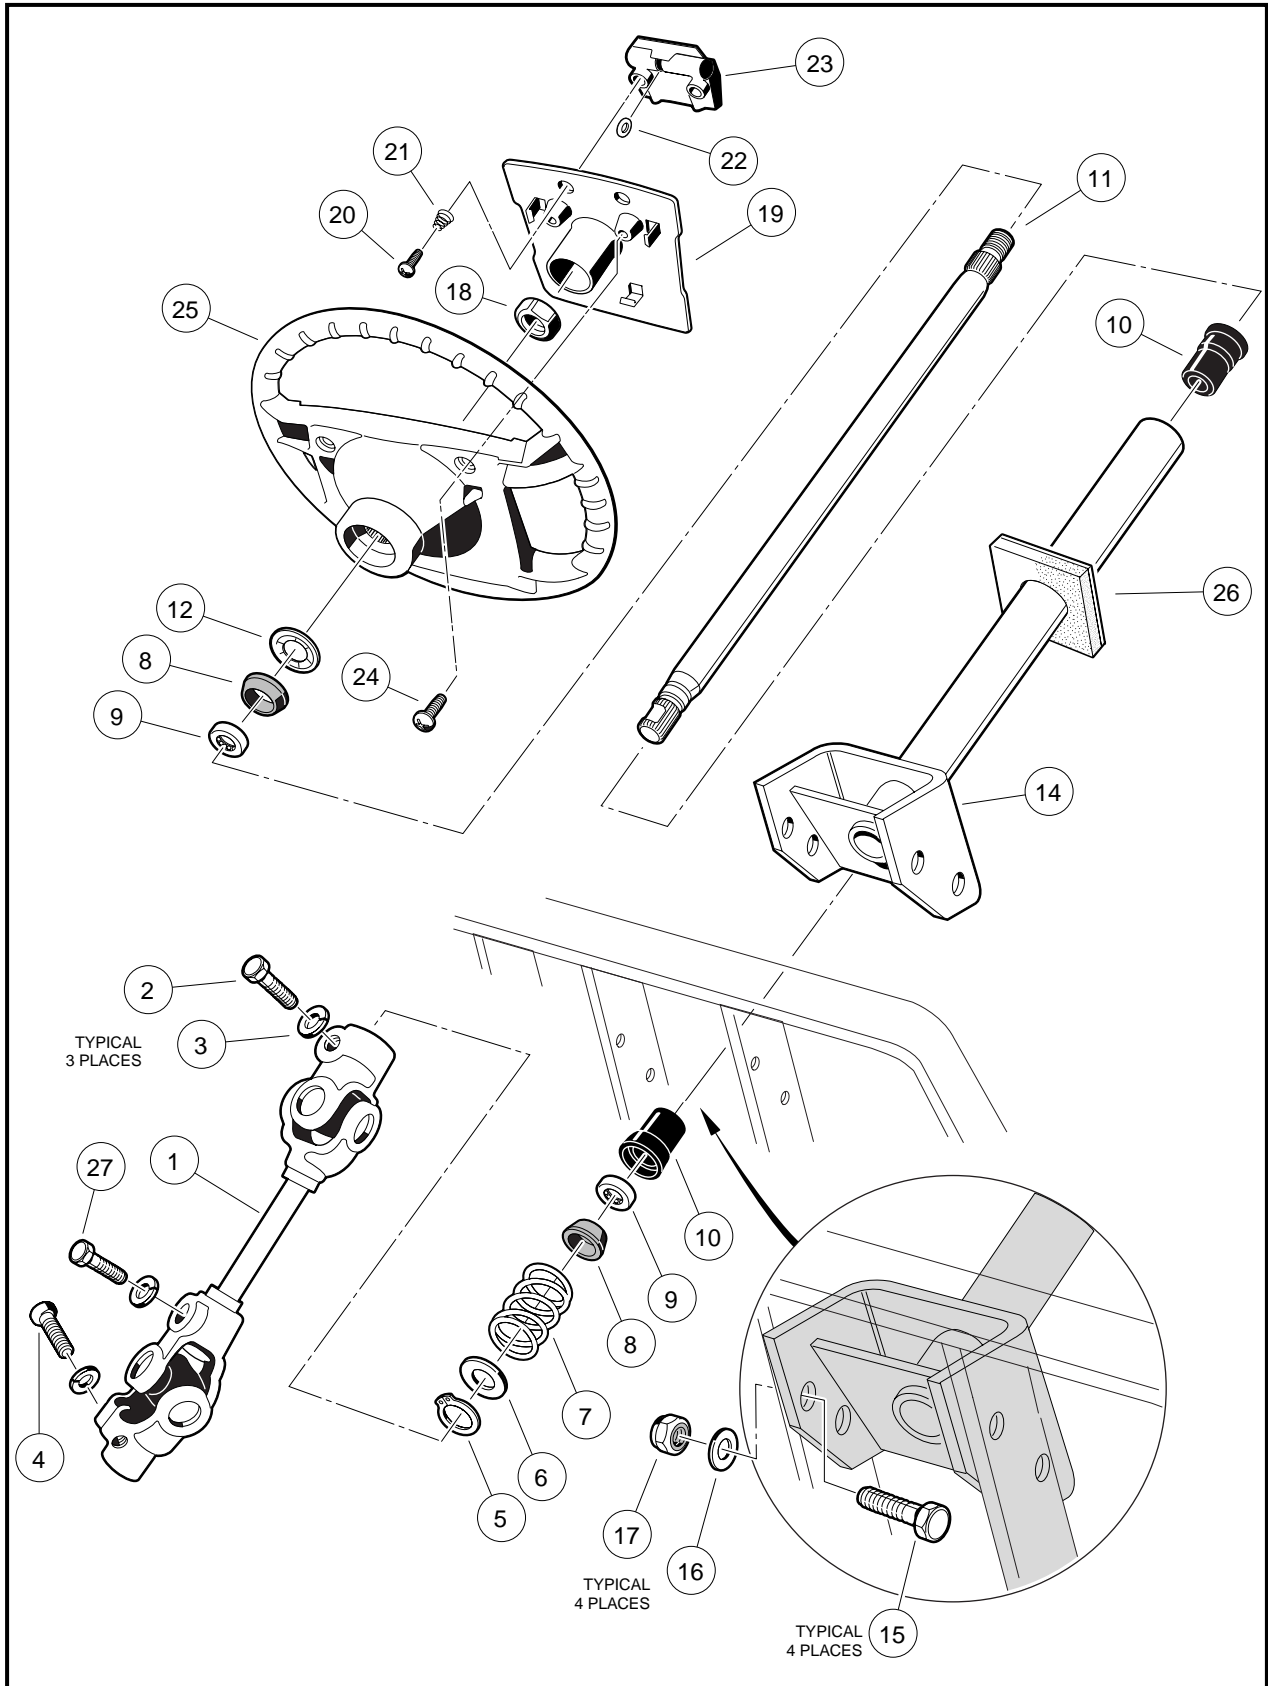
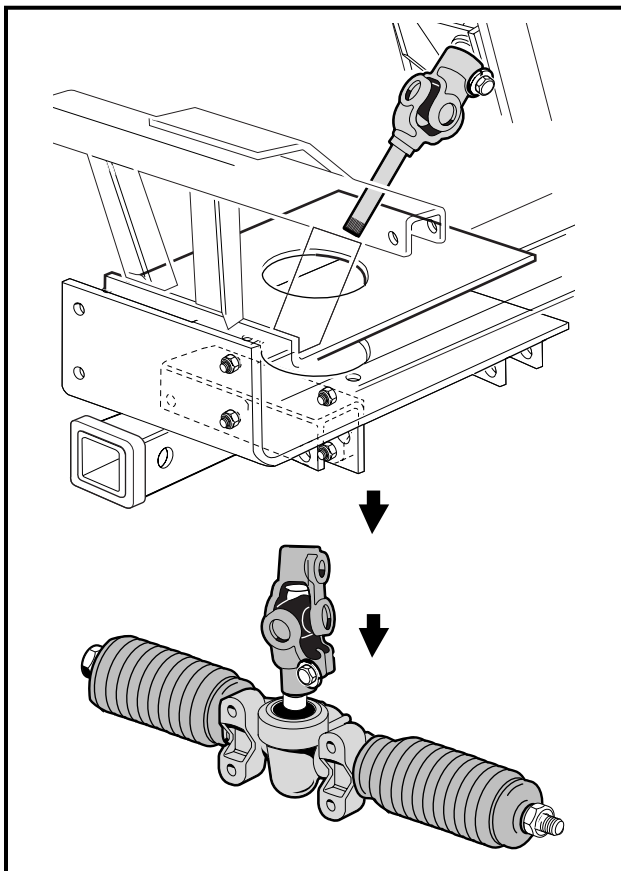

Figure 7-1 Steering Column
Figure 7-8 Remove Rack and Pinion
2. Remove the two mounting screws (24) and plate (19) (Figure 7-1, Page 7-2).
3. Match mark the steering wheel (25) and steering column shaft (11) so when the steering wheel is removed it can be placed back in exactly the same position on steering column shaft (**Figure 7-1, Page 7-2**).
4. Loosen the steering wheel nut (18) and back it off approximately 1/4 inch (6 mm). Do not remove the nut (**Figure 7-1, Page 7-2**).
- 5.6. Remove the steering wheel nut (18) and the steering wheel from the steering column (14) (**Figure 7-1, Page 7-2**).
1. Install the steering wheel (25) on the splines of the steering shaft (11). Be sure to align the match marks placed on the wheel and steering column shaft in step 3 above (**Figure 7-1, Page 7-2**).
2. Install the steering wheel nut (18) and tighten to 13 ft-lb (17.6 N·m) (**Figure 7-1, Page 7-2**).
3. Install the steering wheel plate (19) and plate mounting screws (24) (**Figure 7-1, Page 7-2**). Tighten screws to 16 in-lb (1.8 N·m).
7. Remove the nuts (17), bolts (15), and washers (16) from the steering column mount (14) (**Figure 7-1, Page 7-2**).
1. While supporting steering column (14) on a workbench, remove snap ring (5) from shaft (**Figure 7-1, Page 7-2**).
2. Remove the washer (6), spring (7), and wedge (8) (**Figure 7-1, Page 7-2**).
- Turn the steering column over and slide the shaft out of the tube to expose the retaining ring (12). Use pliers to twist the retaining ring (12) until it breaks off, then remove the wedge (8) (**Figure 7-1, Page 7-2**).
- Remove the shaft (11) from the bottom of the tube (14) (**Figure 7-1, Page 7-2**).
- Use steering shaft (11) to push bearing seat (10) out from the opposite end of the steering tube (14) (**Figure 7-1, Page 7-2**).
- Insert a flat blade screwdriver between the bottom of the outer race of the bearing (9) and the bottom lip of the bearing seat (10) and remove the bearing (9) (**Figure 7-1, Page 7-2**).
4. Insert the shaft (11) from the bottom of the steering tube (14) (**Figure 7-1, Page 7-2**).
1. Install boot (26) (if previously removed) (**Figure 7-1, Page 7-2**).
3. Position the steering column assembly in the vehicle while inserting the steering column shaft into the upper universal joint (1). The flat portion of the steering shaft spline (11) must be aligned with the bolt hole in the universal joint (1) before sliding the spline into the universal joint (**Figure 7-1, Page 7-2**).
5. While holding the steering column in place, attach it to the frame using bolts (15), washers (16) and lock nuts (17) (**Figure 7-1, Page 7-2**). Tighten the four bolts, in a crisscross pattern to 23 ft-lb (31.2 N·m).
6. Tighten the bolt (2) on the upper universal joint to 15 ft-lb (20 N·m) (**Figure 7-1, Page 7-2**).
6. Remove the bolt (27) and lock washer (**Figure 7-1, Page 7-2**) from the universal joint, then remove the rack assembly and universal joint from the vehicle (**Figure 7-8, Page 7-7**).